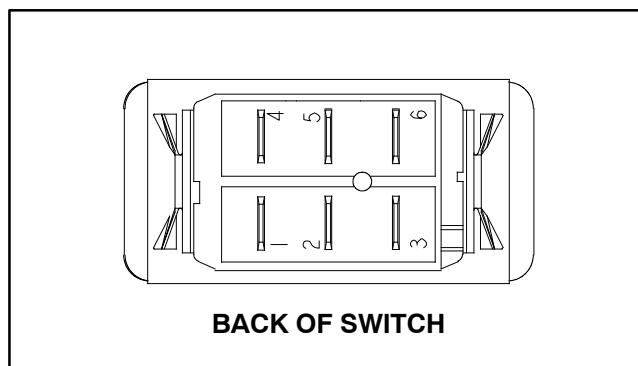

Figure 51
5. The switch terminals are marked as shown in Figure 51. The circuit logic of the turn signal switch is shown in the chart below. With the use of a multimeter (ohms setting), the switch functions may be tested to determine whether continuity exists between the various terminals. Verify continuity between switch terminals. Replace turn signal switch if testing identifies a faulty switch.